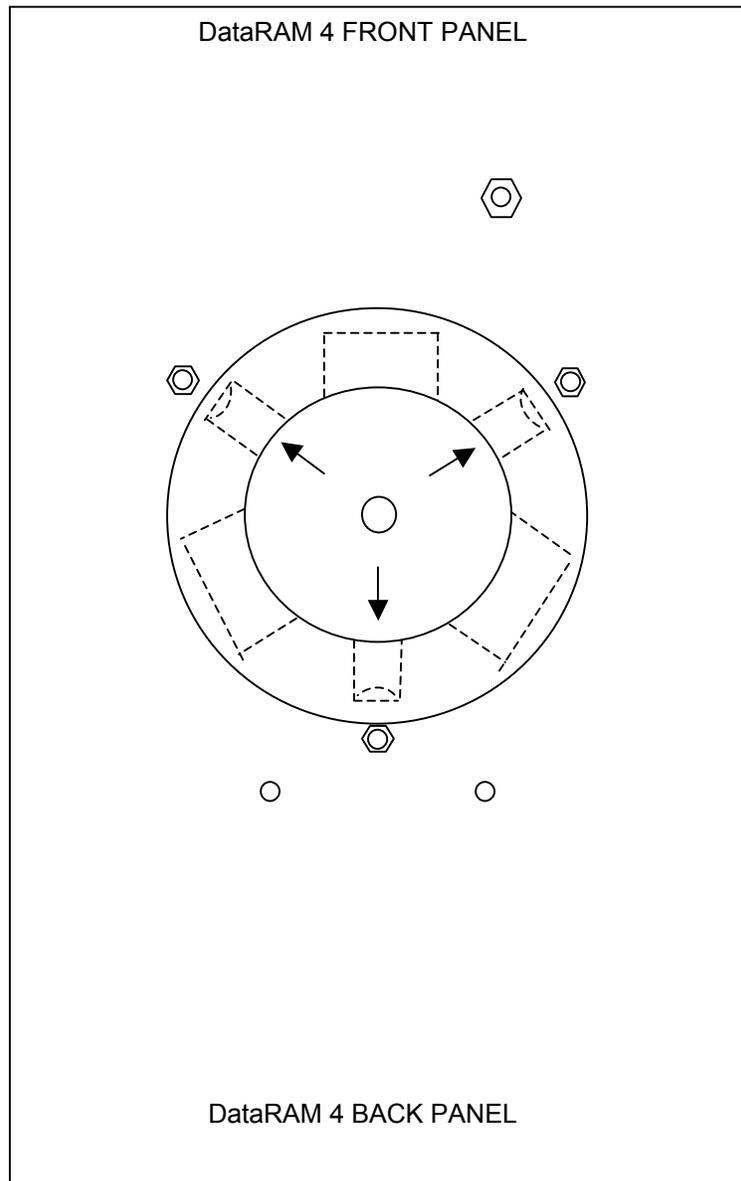

Fig. 5. Lens cleaning tool and bottom view of open filter cavity showing location of sensor chamber lens cavities (arrows).
Although the DataRAM 4 incorporates filtered air shielding of the critical optical sensing surfaces, continued sampling of airborne particles at high concentrations may result in gradual build-up of contamination on those interior surfaces of the sensing chamber components. This may cause an excessively high optical background level. If this background level does becomes excessive, the DataRAM 4 will alert the user at the completion of the zeroing sequence, as indicated in Section 9.2 by the display of a BACKGROUND HIGH message. If this message is presented, the DataRAM 4 can continue to be operated providing accurate measurements. However, it is then advisable to clean the front surfaces of the optical lenses within the sensing chamber at the first convenient opportunity, as described below. The tools required for this cleaning are: an intense concentrated light source (e.g., flash light) to view the inside of the sensing chamber, denatured alcohol, a soft lint-free cloth, and the special cleaning tool provided with the DataRAM 4 consisting of a cut-off cotton swab inserted in a plastic sleeve and held by a right-angle Allen wrench (see Fig. 5).
- Using the layout of the Figure 5 as a guide, locate the three smaller side cavities inside the sensing chamber, identified by the arrows on that figure. These three cavities contain the lenses of the two sources and the common detector of the DataRAM 4. The frontal surfaces of these lenses are likely to require cleaning if the instrument indicates BACKGROUND HIGH.
- Direct the cotton swab tip towards the opening of one of the three smaller cavities as indicated by the arrows of Figure 5, and insert the cotton tip into this cavity as far as it will go. Gently wipe that internal surface touched by the swab tip by a rotating motion. Carefully withdraw the swab tip from the cavity.
- Repeat previous cleaning step for the other two small cavities as indicated by the arrows of Figure 5.